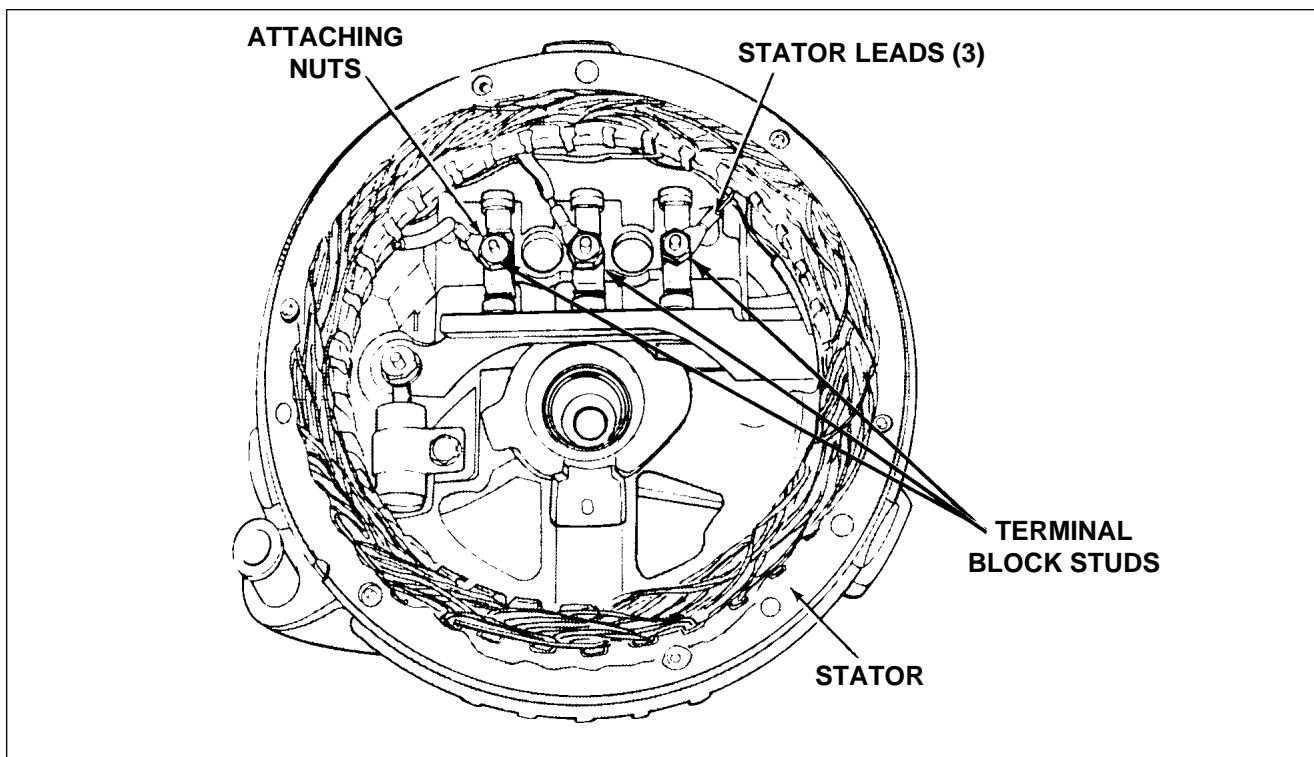

Figure 11-19. Chrysler Alternator Rectifier End Shield and Stator Assembly
4. Verify rectifier/stator lead is pushed down into slots cast in end shield and cemented with MoPar cement No. 2299314. (Refer to Figure 11-19)
The two methods of testing rectifiers are the test lamp method and a method utilizing a special Rectifier Tester Tool no. C-3829. The Rectifier Tester Tool method is preferred. It gives quick, simple, and accurate test of alternator rectifiers without disconnecting stator phase leads (Figure 11-19). Both methods are described in this Section.